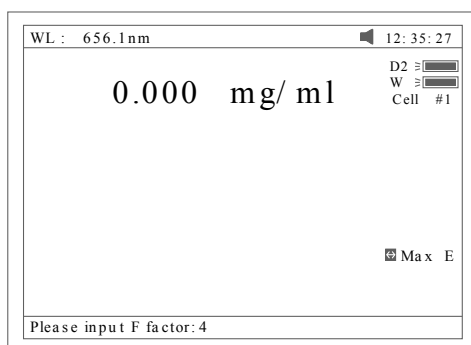

Fig 23
- 1) Press [F3] to input known F value, Fig 23. Then push the sample into lightpath to take reading of concentration. Push sample of known concentration into the lightpath